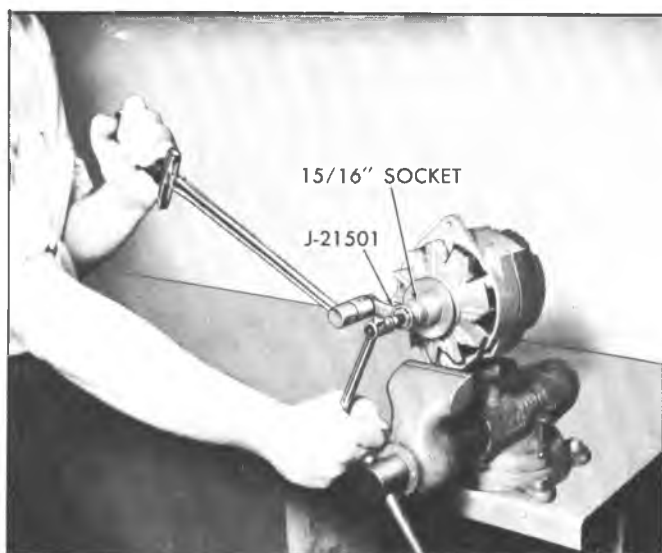

Fig. 9C-Installing Pulley Nut
2. Using adapter J-21501, insert an allen wrench into hex shaped hole at end of shaft and torque the shaft nut to 40-50 ft. lbs. (fig. 9C).